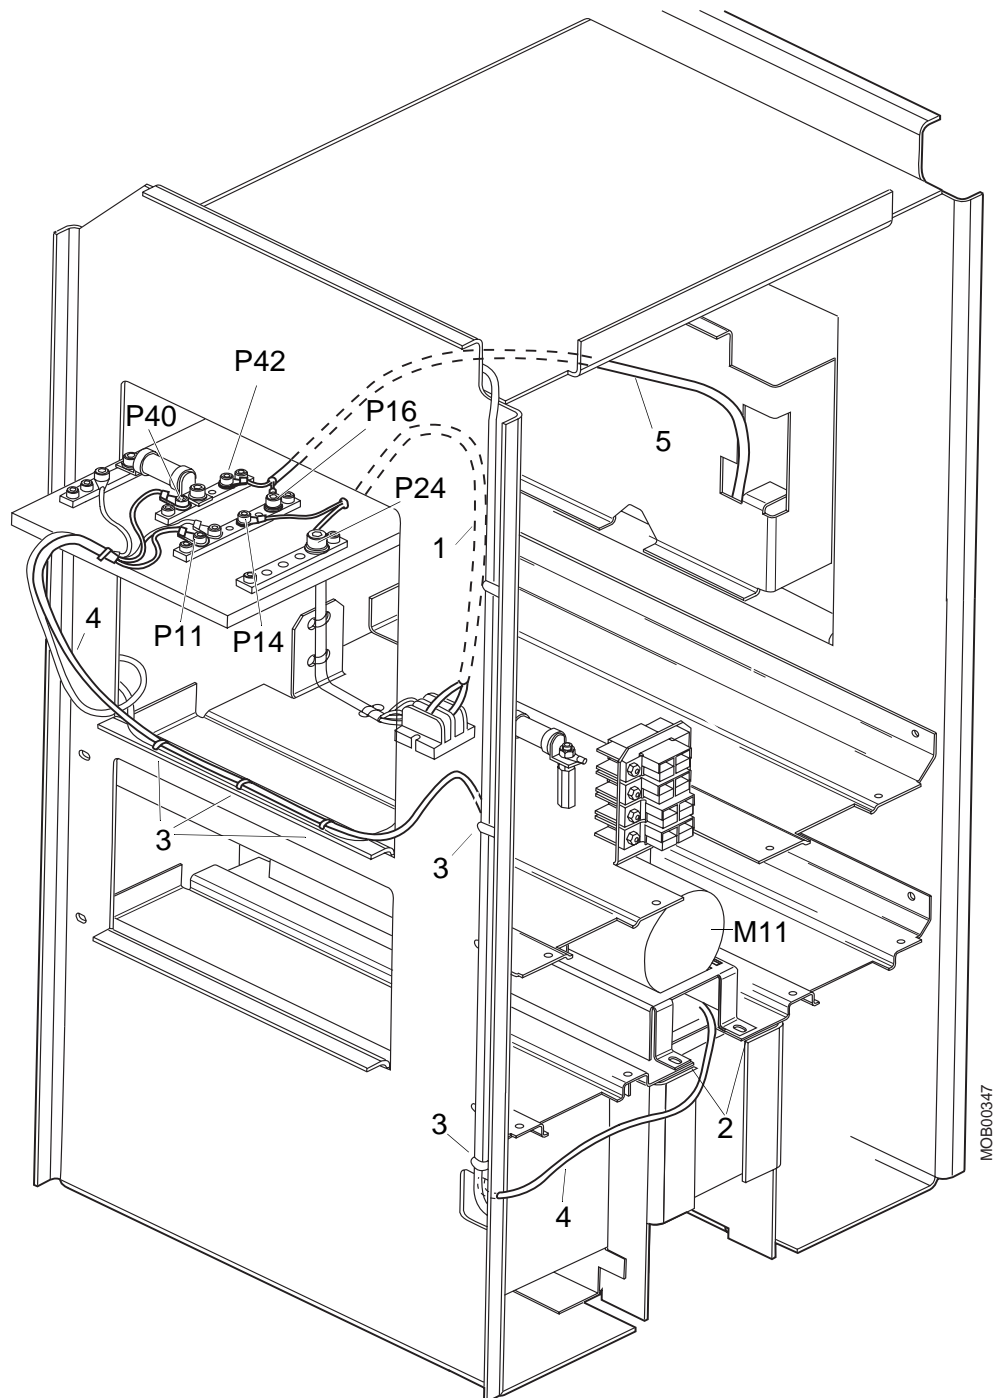

Fig. 4
2. Disconnect cable (1/Fig. 4) from P24 and P14 on the power conversion unit.
7. Connect cable (1/Fig. 4) to P14 and P24 on the power conversion unit.
1. Insert the capacitor unit, M11, and fasten it with screws (2/Fig. 4).
2. Cut cable ties (3/Fig. 4). Connect the cable (4/Fig. 4) to P11 and P40 according to Fig. 4. Fasten with new cable ties.
3. Disconnect cables K8 and K64 on the right-hand side and replace the inverter. Connect cable (5/Fig. 4) to P16 and P42 on the power conversion unit.